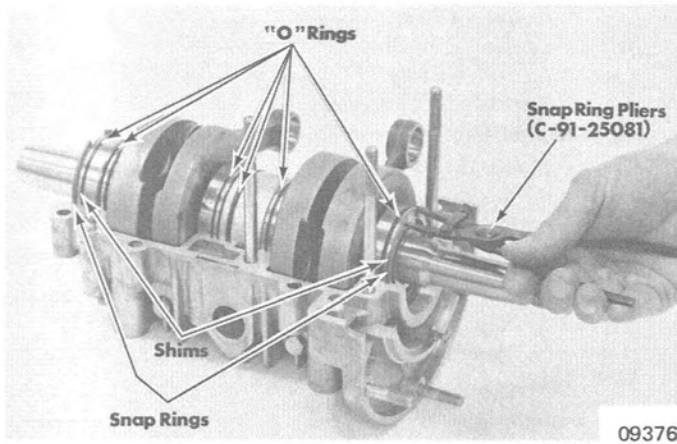

Figure 15. Removing Crankshaft
6. Remove shims from PTO side of crankshaft. (Figure 15) Note number and position of shims to aid in reassembly. Shims are used to adjust crankshaft end play.
7. Remove shims from rewind side of crankshaft. (Figure 15) Note number and position of shims (to aid in reassembly). Shims are used to adjust crankshaft end play.
9. Remove and discard 3 crankshaft end bearing "O" rings (2 on PTO end, one on rewind end). (Figure 15)
10. Remove and discard 2 crankshaft centermain bearing "O" rings (one on each bearing) and "O" ring from distance ring. (Figure 15)